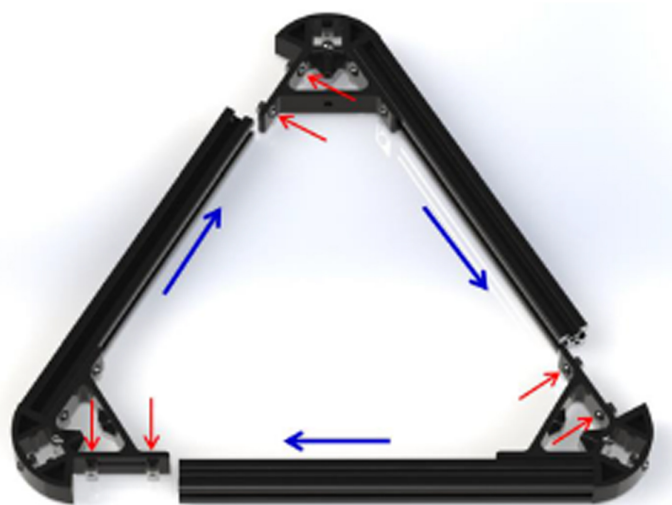

Fig. 2
Step 2. Place 3 pieces of assembled A01 and D01 on a flat surface with back side face down, as shown in Fig. 2. Then, follow the blue arrows, slowly push forward those 3 parts to